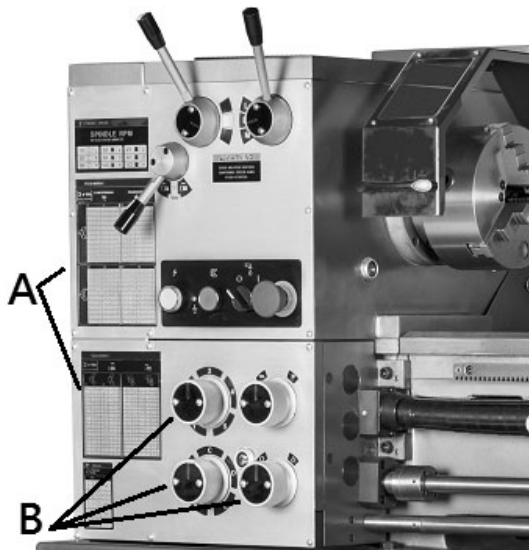

Figure 10-1
1. Reference the feed and thread table (A, Figure 10-1).
2. Move knobs and handle (B, Figure 10-1) to appropriate positions.